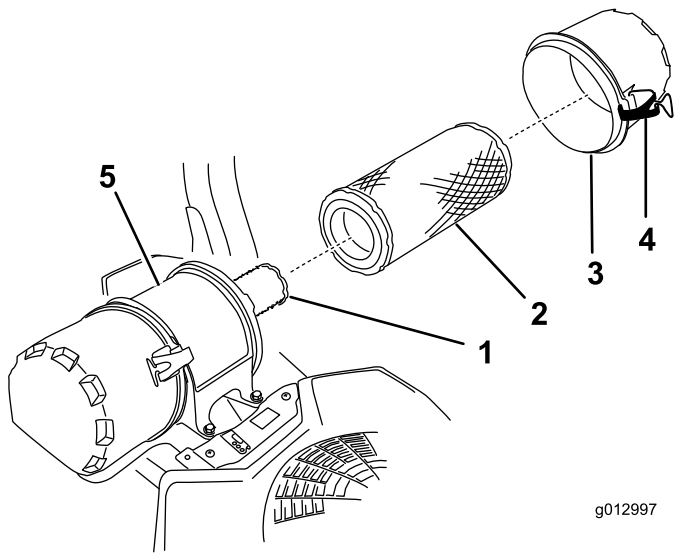

Figure 60
6. Release the latches on the air cleaner and pull the air-cleaner cover off the air-cleaner body (Figure 60).
8. Gently slide the primary filter out of the air-cleaner body (Figure 60).
2. If you are replacing the safety filter, carefully slide it into the filter body (Figure 60).
3. Carefully slide the primary filter over the safety filter (Figure 60).
4. Install the air-cleaner cover and secure the latches (Figure 60).